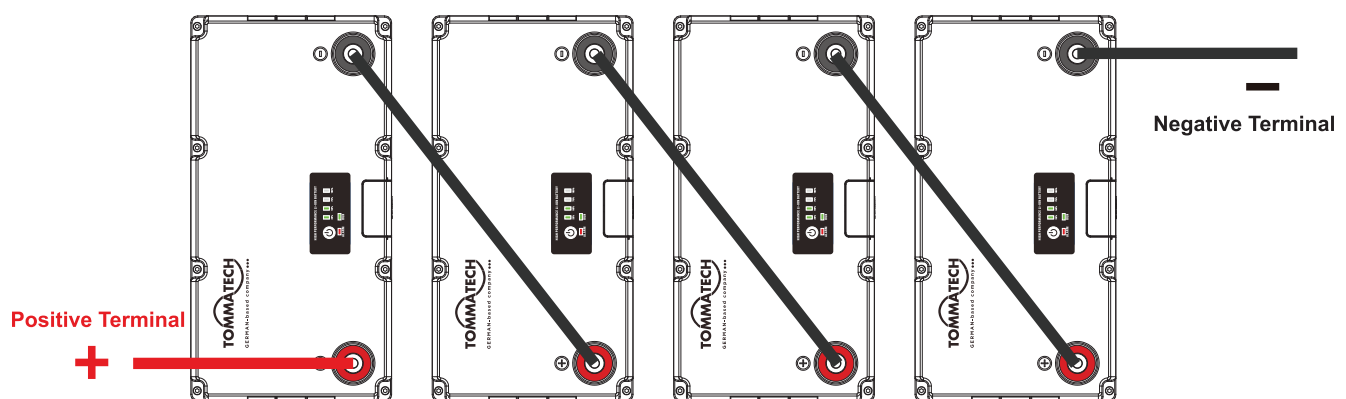

Figure 2. Connecting Batteries in Series (4S1P Configuration)
The maximum number of 12.8V lithium battery that you can connect in a series is four (4). The maximum number of 25.6V lithium battery that you can connect in a series is two (2). Below figure 2 illustrates four 12.8V lithium battery connected in series, for a 4S1P configuration.